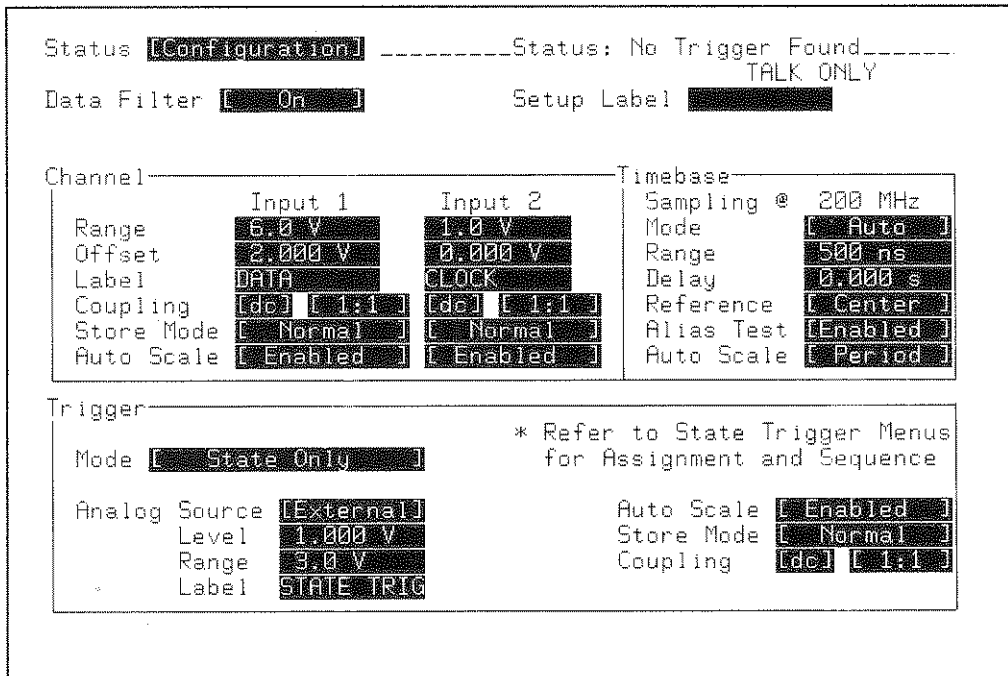

Figure 9-28. STATUS Configuration Menu
1. Configure the STATUS Configuration menu as shown in figure 9-28.